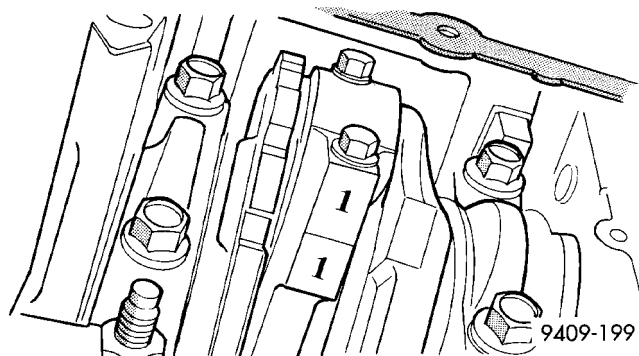

Fig. 55 Identify Connecting Rod to Cylinder - Typical
(17) Using a permanent ink or paint marker, identify cylinder number on each connecting rod cap (Fig. 55).